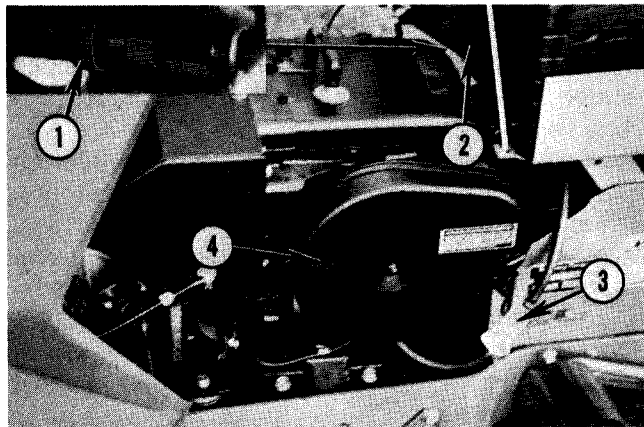

Fig. 9 — Fuel Shut-Off Location
4. If there are traces of dirt, water or other contaminants in fuel, as visible through transparent case containing in-line filter, No. 3, Fig. 9, close fuel shut off valve, No. 1, and remove and replace in-line filter. Make certain valve is open at least two full turns before attempting to start engine.